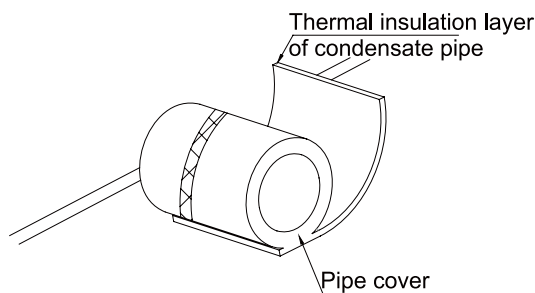

Figure 1-1-10
- The Drainage Pipeline shall be installed with an inclining angel of 5~10°, so as to facilitate the drainage of condensate. The joints of the Drainage Pipeline must be covered by thermal insulation materials to avoid generation of exterior condensate. (As shown in Figure 1-1-10)